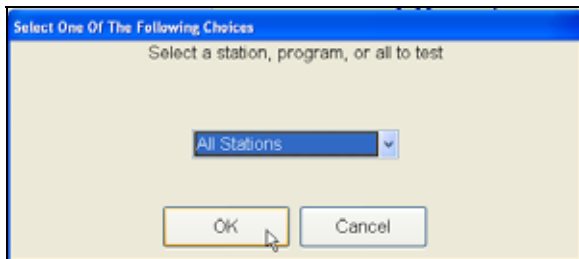

Figure 7.2.3
2. Click on the **DOWN** arrow to view the different screen selections. Click **OK** (Figure 7.2.3).